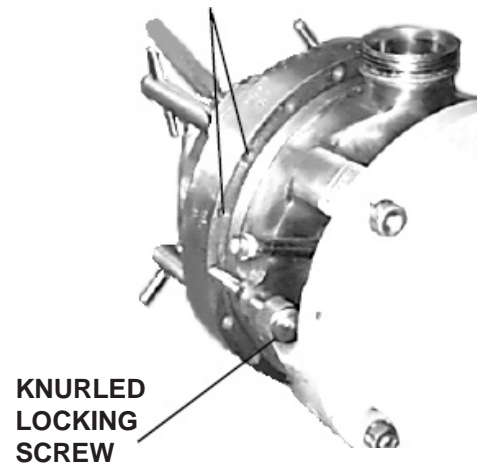
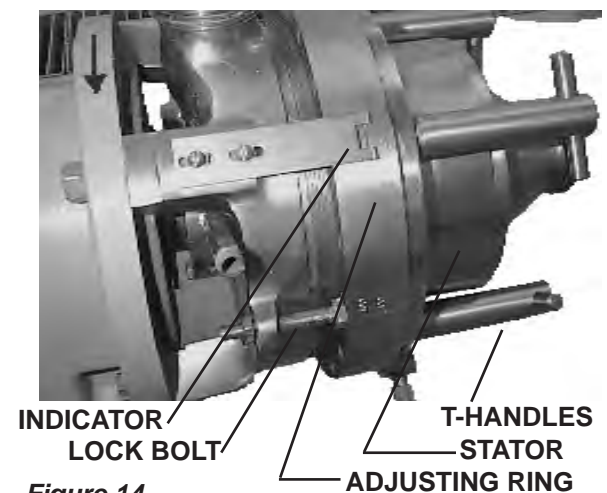

Figure 13
Figure 14
The body (1) and the adjusting ring (3) are calibrated as a unit and serialized, they must not be interchanged with other Waukesha Cherry-Burrell Colloid Mills. The stator is held firmly against the adjusting ring by "T" handles (Figure 14).
The clearance between rotor and stator is adjusted by turning the adjusting ring counter clockwise (when facing the outlet port) for increased clearance and clockwise to decrease the clearance. The adjusting ring is engraved with numerals indicating the clearance in increments of .010 inches. The indicator pointer indicates the desired clearance. For setting in between the increments of .010 the drill point spacing is equal to .001 clearance. Drill point spacing coincides with locking hole spacing. There are 18 locking holes in the ring, spaced 20° apart. (Figure 13)
Example: to obtain 0.014 radial clearance, locate 0.010 punch mark under pointer. Turn ring counterclockwise four additional drill points {or locking holes}, and lock in place with knurled lock screw. (Figure 13) Tighten "T" handles to firmly hold stator against adjusting ring. Clearance will be 0.014 inches. Adjust lock bolt and tighten nut. (Figure 14)